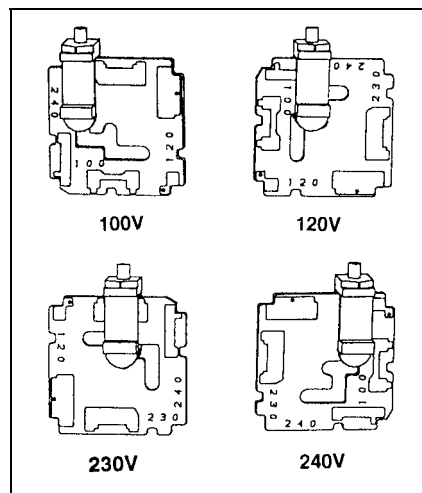

Figure 2-2
5. Orient the indicator pin so that it points up when the desired voltage is readable at the bottom. When the pin is fixed and in place, rotate the card 90° clockwise (Figure 2-2).